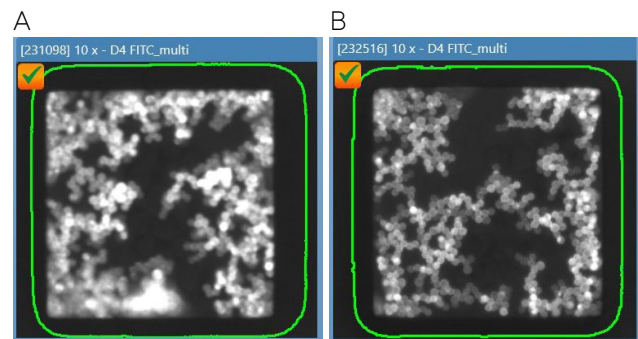

Figure 2. Greater fluorescence can be observed using the new sensitivity mode (A) vs. the standard imaging setting (B)
- 2 new imaging modes have therefore been incorporated to provide greater resolution and sensitivity flexibility, resulting in a 16 times greater sensitivity option to enhance visualization of low expression target molecules (Fig. 2)